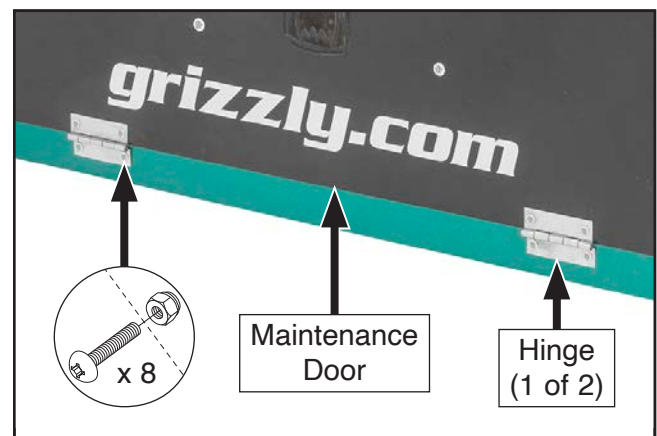

Figure 10. Maintenance door and hinges installed on machine body.
5. Attach maintenance door to machine body with (2) hinges, (8) M3-.5 x 8 Phillips head screws, and (8) M3-.5 x 8 lock nuts (see **Figure 10**).